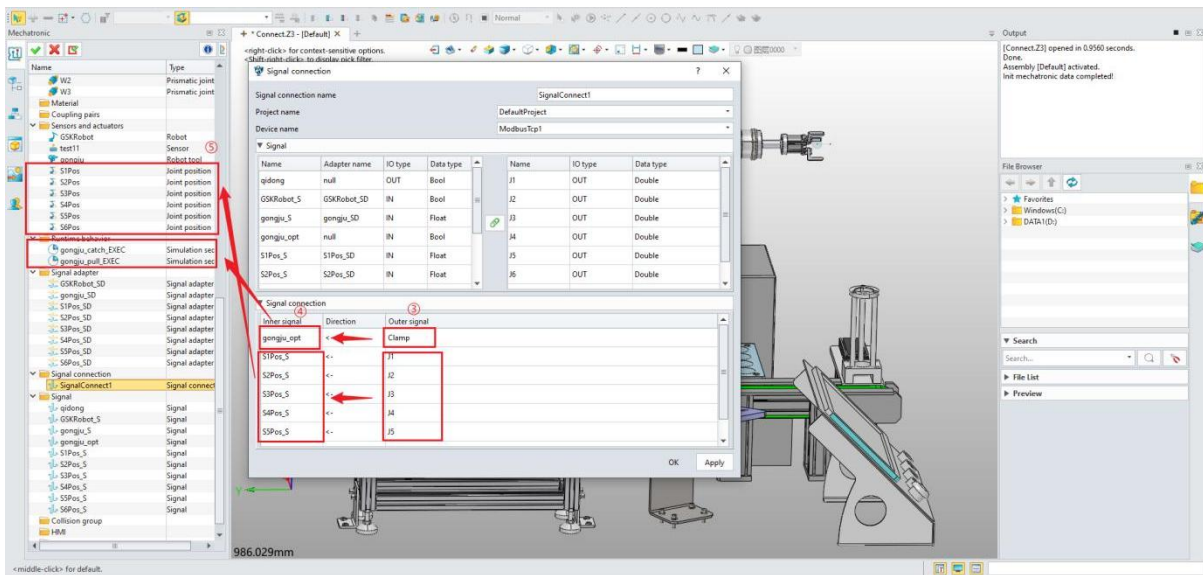

Figure 12-23: Simulation verification
- The external signals added through ③ control the internal signals of ④ sequentially.
- Finally, the internal signals control the ⑤ joint positions and the programmed simulation data sequence, successfully establishing an external communication function. (Figure 12-23)